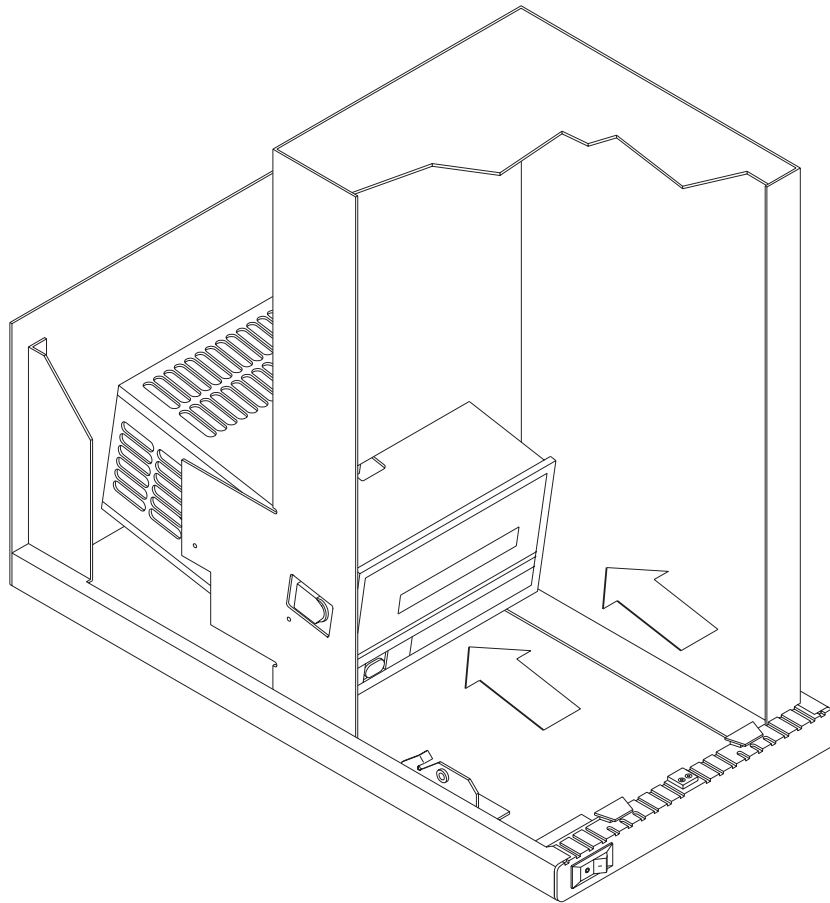

Figure 10-5 Installing the CTS
2. Hold the CTS by the top and bottom. From the front of the CHS, slide the CTS into the CHS enclosure, so that the bottom of the CTS rests on the platform in the center of the CHS, as shown in Figure 10-5.